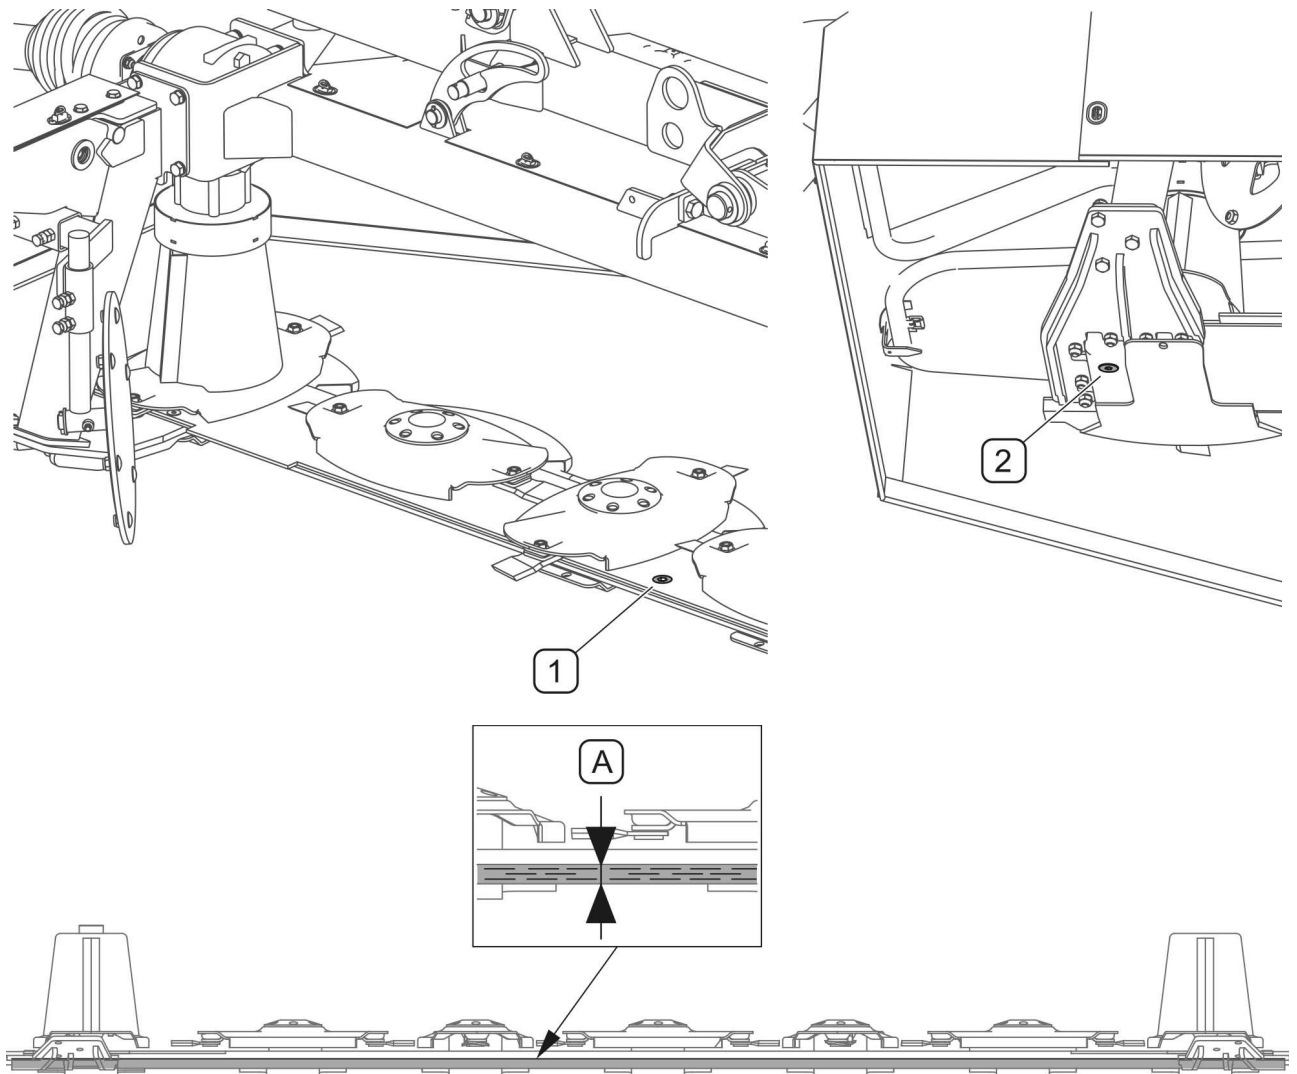

FIG. 5.4A Check oil level in cutterbar
(1)- inlet cap; (2)- drain plug; (A)- correct oil level 5 ÷ 7 mm from the cutterbar bottom
Correct oil level (A) with cutterbar in horizontal position is 5 ÷ 7 mm from the cutterbar bottom. To check oil level remove inlet cap (1) located between the third and fourth disk (FIG. 5.4A). When oil is cold wait approximately 15 minutes before checking the oil level.
In order to change oil in cutterbar (FIG. 5.4A):